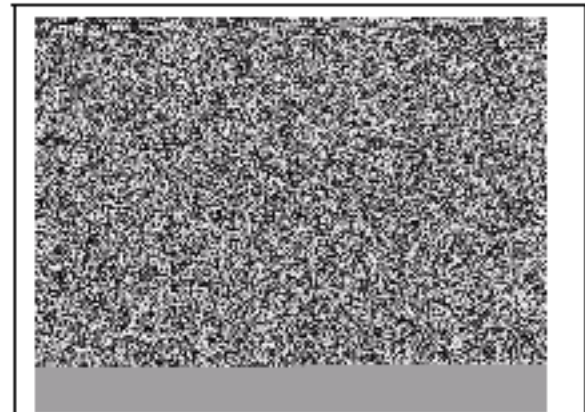

Fig. 136
Remove two screws (A) and throttle plate (B) and pull the throttle shaft ([C] Fig. 136) from the carburetor body.